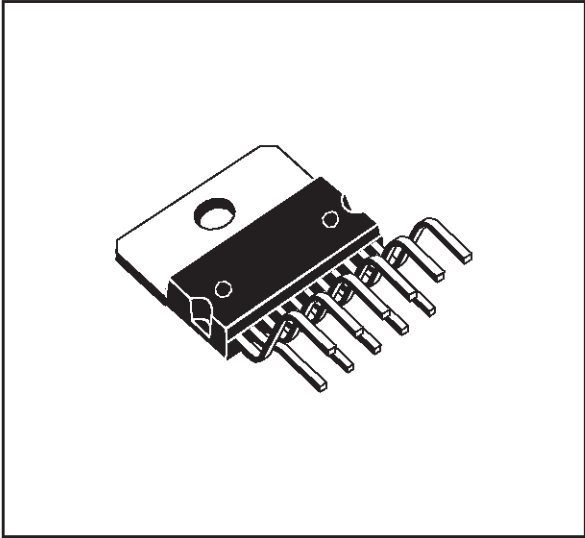

Figure 17: Thermal Protection & Diagnostic Waveforms
**THERMAL WARNING** (see fig. 17)